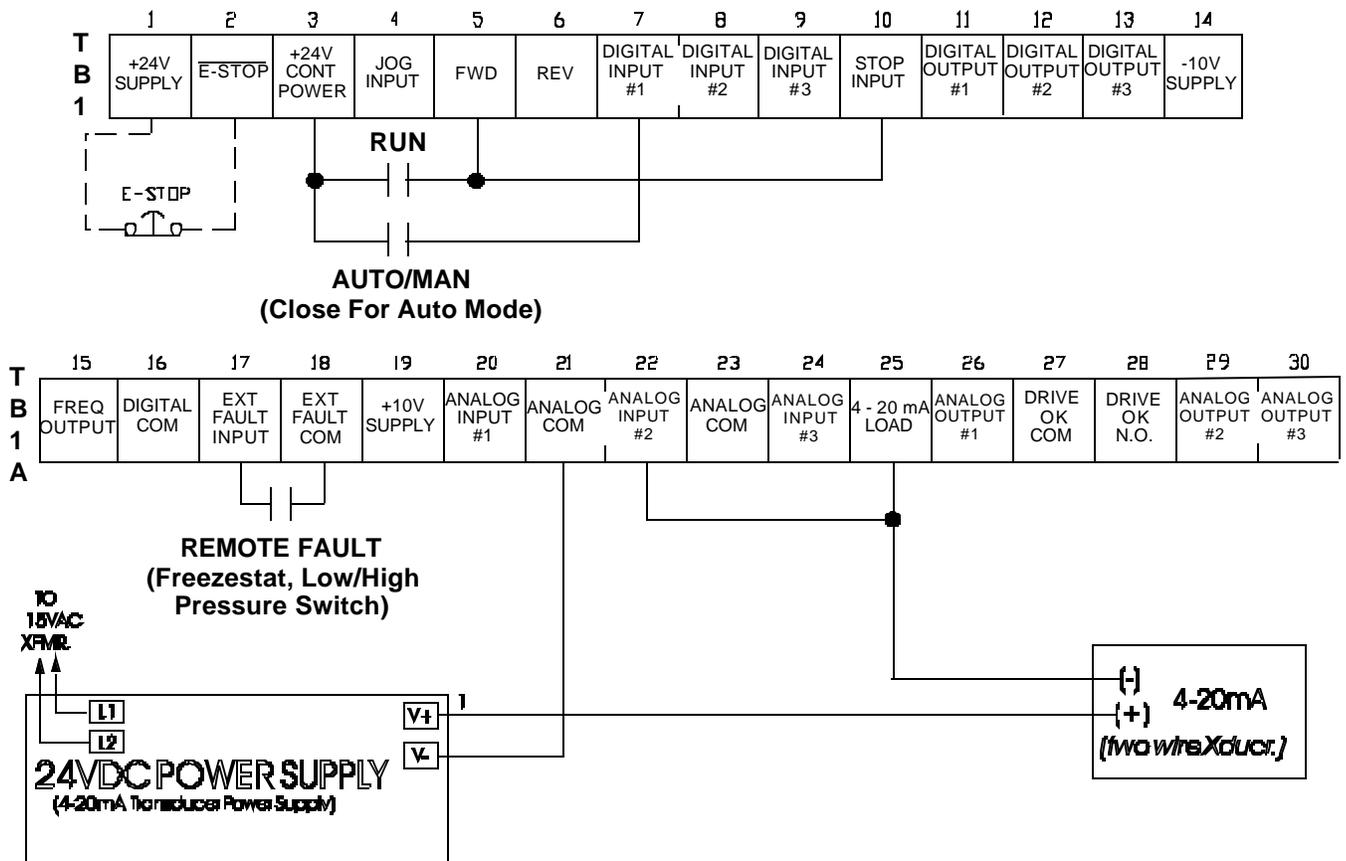

FIGURE 7-11. TYPICAL WIRING DIAGRAM FOR A TWO-WIRE TRANSDUCER WITH AN EXTERNAL POWER SUPPLY
2. Connect the controller for a 4 - 20 mA speed reference signal as shown in Figure 7-10 (page 7-14) or Figure 7-11 (page 7-15), as applicable.
2. Connect the controller for a 0 - 10 VDC speed reference signal as shown in Figure 7-10 (page 7-14) or Figure 7-11 (page 7-15), as applicable.